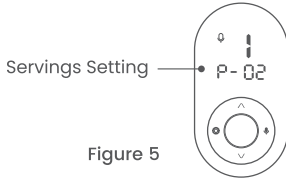

Figure 5
- **Dispensing servings setting:** After local time setting is completed, the system enters first meal schedule setting. Press the increase key “^” or decrease key “v” to set the dispensed servings (Note: the maximum setting for dispensed servings is 9, about 9 grams per serving). (Figure 5) (For example, if the number of first dispensed meals is set to 2, here is the display interface.)